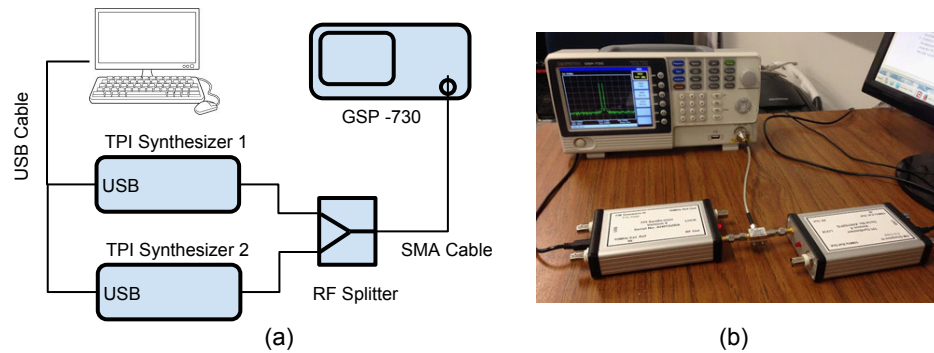

Figure 17: Two-tone measurement setup.
- (d) Connect the output ports of the two synthesizers (labeled “RF Out”) with the output ports of splitter/combiner (labeled “1” and “2”) via male-male SMA adapters. Fig. 17 shows the measurement setup.